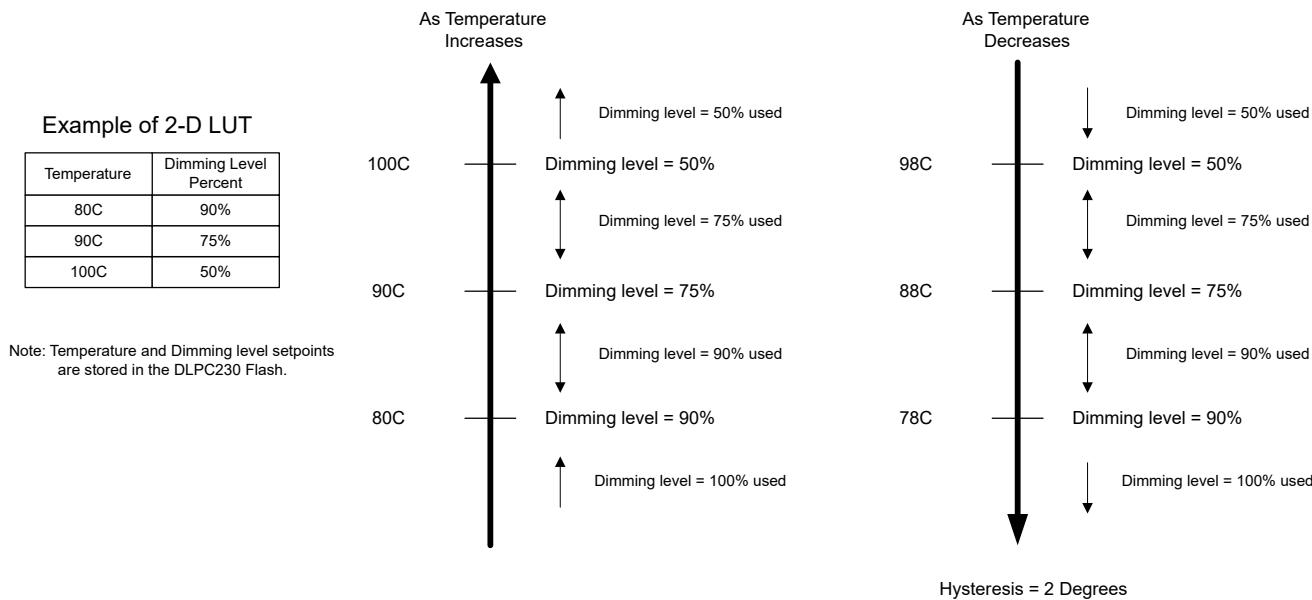

Figure 5-22. Example of 2D LUT Dimming Level Override Temperature
Some applications are temperature-sensitive and show side effects at higher temperatures, requiring active cooling solutions such as fans. For systems that use dimming, the DLPC230-Q1 offers a dimming level override function. It is intended to self-monitor a system temperature level and automatically update the dimming level. In general, lower dimming level will result in reduced heating due to lower brightness. Note that this function also supports hysteresis to avoid switching back and forth between temperature regions and dimming levels. This hysteresis is applied only as the temperature decreases to a "safer" condition. A 2-Dimensional LUT stored inside DLPC230 flash defines transition temperatures and dimming override levels for this automated function. These parameters, which include enable/disable, temperature thresholds, dimming level percentage, and hysteresis, must be specified in the Automotive DLP Composer(TM) Automotive tool. Figure 5-22 shows an example. See dimming level override commands 40h-44h, starting with Section 8.2.38.